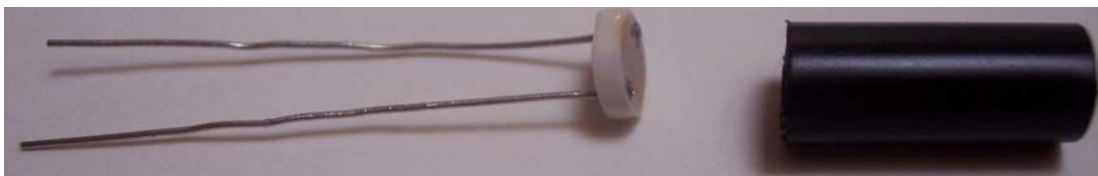

Figure 29. Insert the photoresistor on the right $\frac{1}{4}$ inch into a $\frac{3}{4}$ inch length of shrink wrap tubing.
1. Cut $\frac{3}{4}$ inch length of shrink wrap tubing (Figure 29).